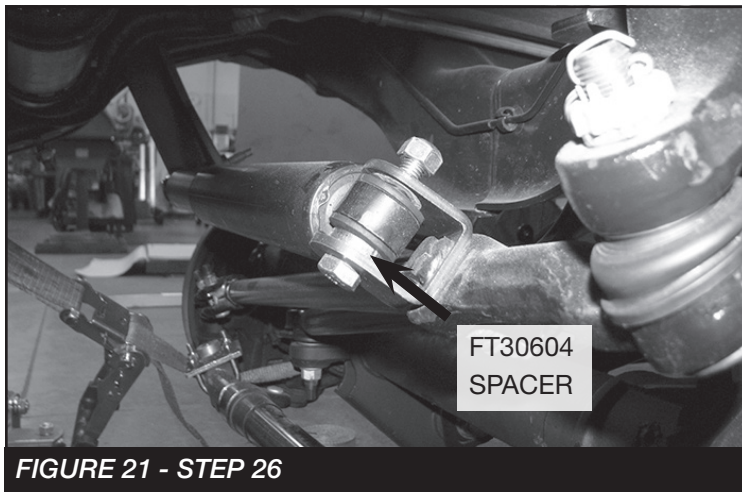

FIGURE 21 - STEP 26
26. Install FT30686 (Stabilizer Clevis) on the factory steering stabilizer using the supplied M12 hardware. **NOTE: Install FT30604 (spacer) like shown in the figure below.** Install the stabilizer using the supplied 9/16" washer and nut to the drag link. Using the factory hardware install the tapered end into the new Fabtech bracket. Torque to 127 ft-lbs. **SEE FIGURE 21**